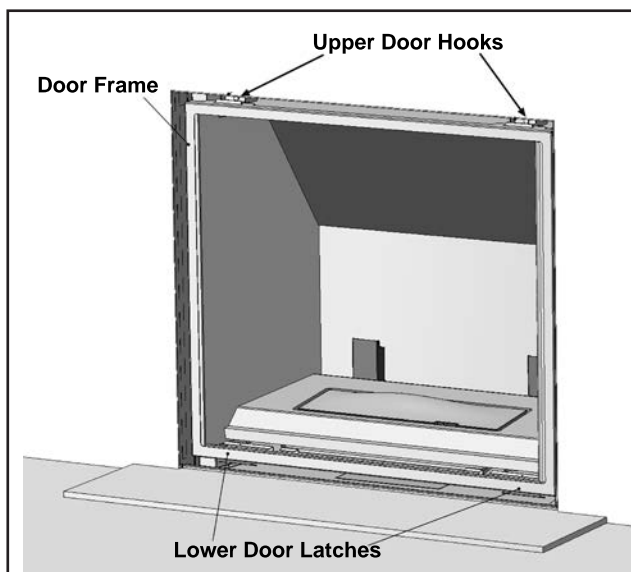
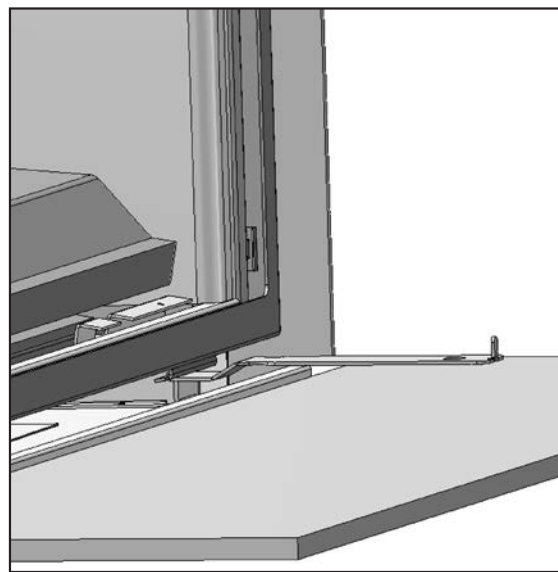

Figure 5: Door Latch Locations.
Figure 6: Door Latch Tool in Place.
- 1) The fireplace door is hung on two (2) hooks on the top of the firebox. The two (2) door latches at the bottom of the firebox hook over the tabs on the bottom of the door frame.
- 2) Lower the door latch tool underneath the door frame. Catch the lower door latch with the door latch tool (see Figure 5) and pull it out slightly, then down. Once the lower door latch clears the tab on the bottom of the door frame, release it inwards and then remove the door latch tool. Refer to Figures 6 & 7.